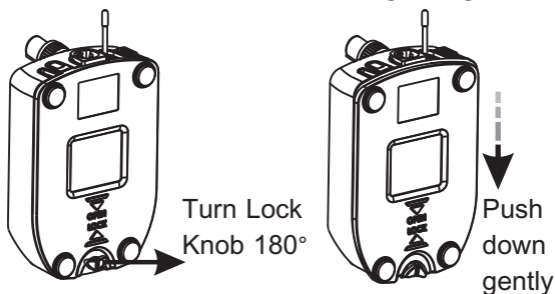

Fig. 2
1. Turn Base Cover Lock Knob ⑭ 180° to loosen the base cover. Push and slide down Base Cover ⑫ according to Fig. 2.